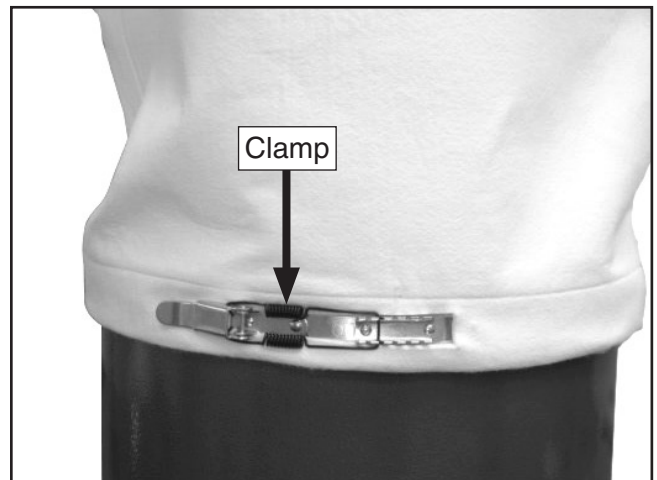

Figure 12. Upper collection bag secured.
9. Tighten the upper bag to the collector using the clamp shown in **Figure 12**.